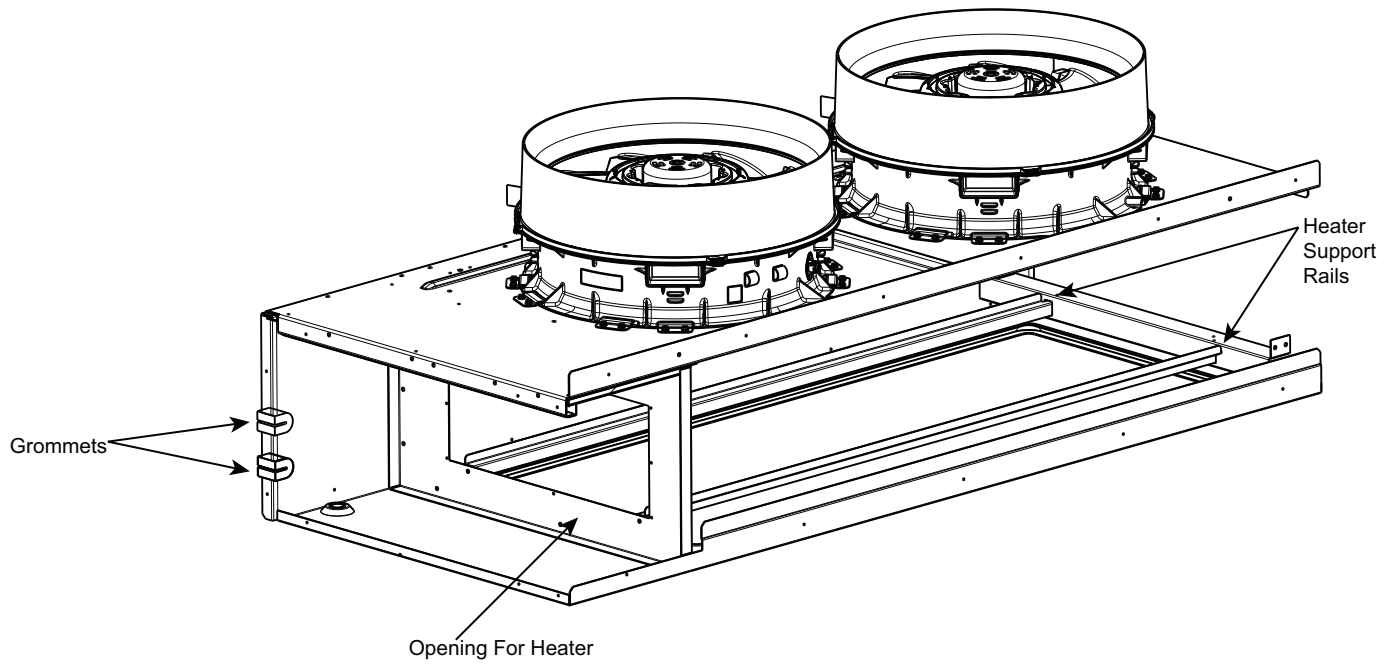

Fig. 50 — Opening for Electric Heater
4. Insert heater assembly through opening where block-off plate was previously removed. Let back end of heaters slide along support rails beneath fan deck. (See Fig. 50.)
6. Route heater power wires through grommeted notches in vertical fan deck support. (See Fig. 50.) Continue routing wires under coil and filter support through the bottom notched section of the control box. Avoid sheet metal edges and any protruding screws.